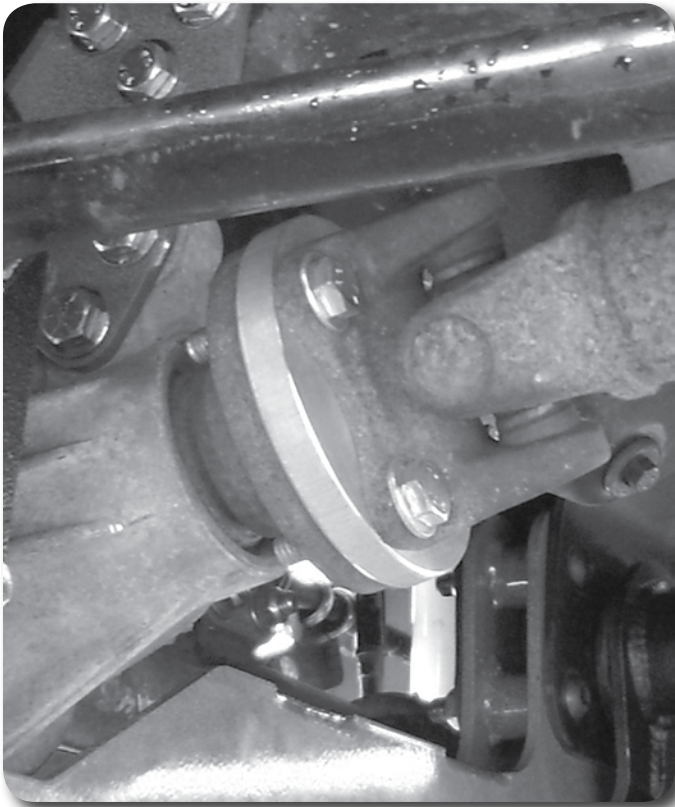

Figure 30
49. Install the provided drive shaft spacer on the differential input flange. Attach the front driveshaft to the differential by aligning the marks made earlier. Fasten the driveshaft and spacer to the differential flange with 12mm x 45mm bolts and 12mm washers. Use loctite on the bolt threads and torque to 55 ft-lbs **Figure 30**.